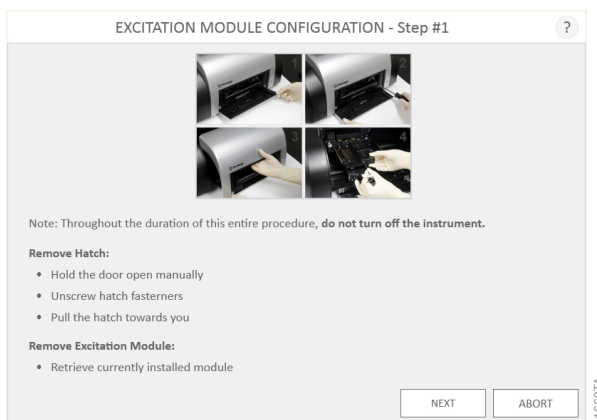

Figure 90. Custom Fluorescence Excitation Module configuration procedure.
1. To add a custom fluorescence excitation module, hold down the plate door, and using the Phillips-Head Screwdriver, unscrew the two screws at the bottom sides of the door (Figure 90).
2. Next pull the front access door toward you to remove the door (Figure 90).